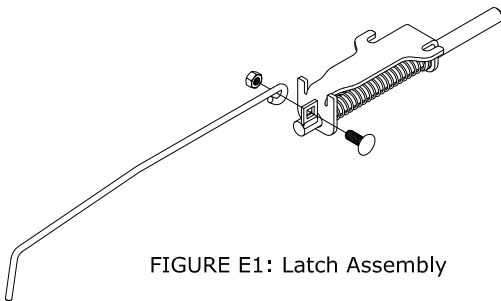
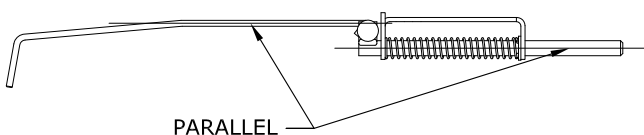

FIGURE E1: Latch Assembly
FIGURE E2: Latch Assembly
1. **Create latch assembly.** Attach the handle to the latch with a  $\frac{3}{8}$ " carriage bolt and lock nut as shown in figure E1. With the handle parallel to the latch pin as shown in figure E2, tighten the hardware securing the handle to the latch.